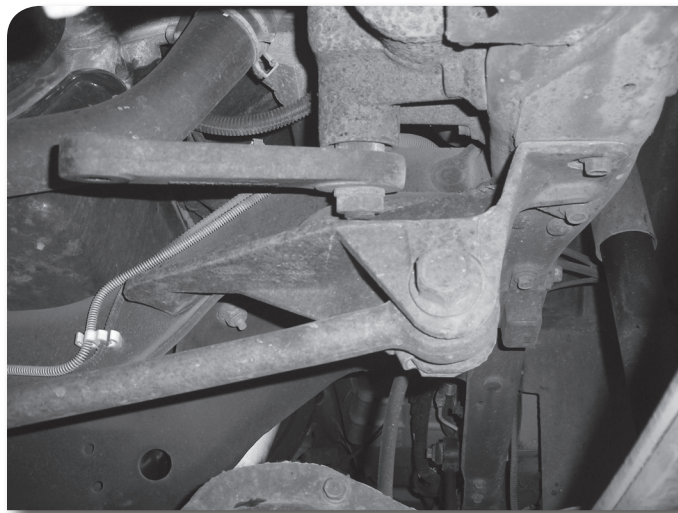

Figure 1
2. Locate and remove the front track bar bolt at the driver's side frame mount. Save hardware. **Figure 1**